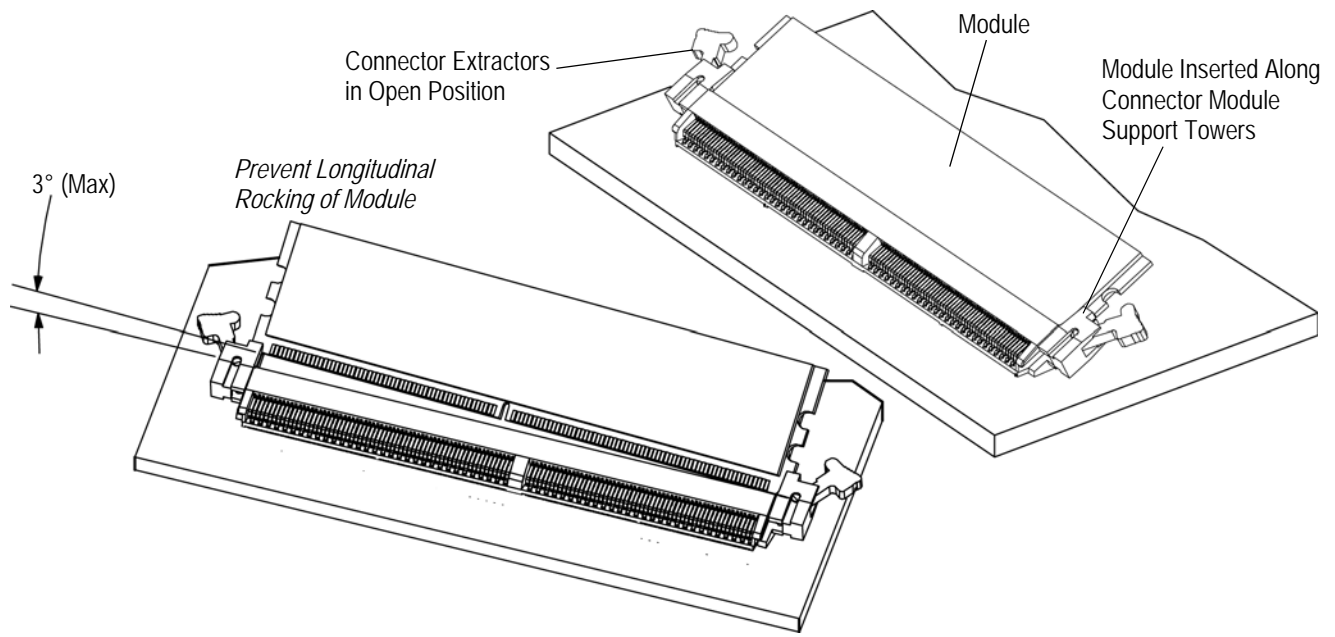

Figure 9
*When mating or unmating module, care should be taken to prevent longitudinal rocking of the module with respect to the connector. Angles greater than  $3^\circ$  could cause damage to the housing or misregistration of the contacts and module circuit pads. Refer to Figure 9.*
1. The connector extractors must be moved to the open position. See Figure 9.